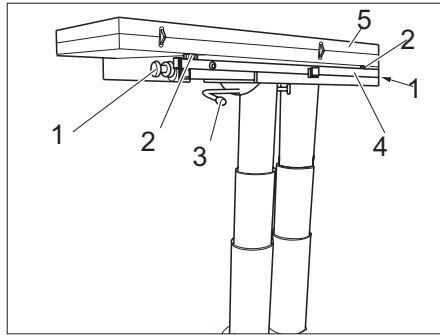

Fig. 74 Increasing the table size
- ▶ Loosen knurled screws (Fig. 74,1) on both sides.
- ▶ Swivel the catch lever (Fig. 74,3) to the left. The lift-off table is unlocked.
- ▶ Pull out the table base (Fig. 74,4).
- ▶ Fold out the table half (Fig. 74,5).
- ▶ Use the two adjusting screws (Fig. 74,2) to adjust the table-top to the desired height.
- ▶ Swivel the catch lever (Fig. 74,3) to the right. The lift-off table is locked.
- ▶ Release the locking lever (Fig. 74,3).
- ▶ Fold in the table half (Fig. 74,5).
- ▶ Screw the two adjusting screws (Fig. 74,2) in.
- ▶ Push in the table base (Fig. 74,4).
- ▶ Tighten knurled screws (Fig. 74,1) on both sides.
- ▶ Swivel the catch lever (Fig. 74,3) to the left. The lock is open.
- ▶ Screw the two adjusting screws (Fig. 74,2) in, if necessary.